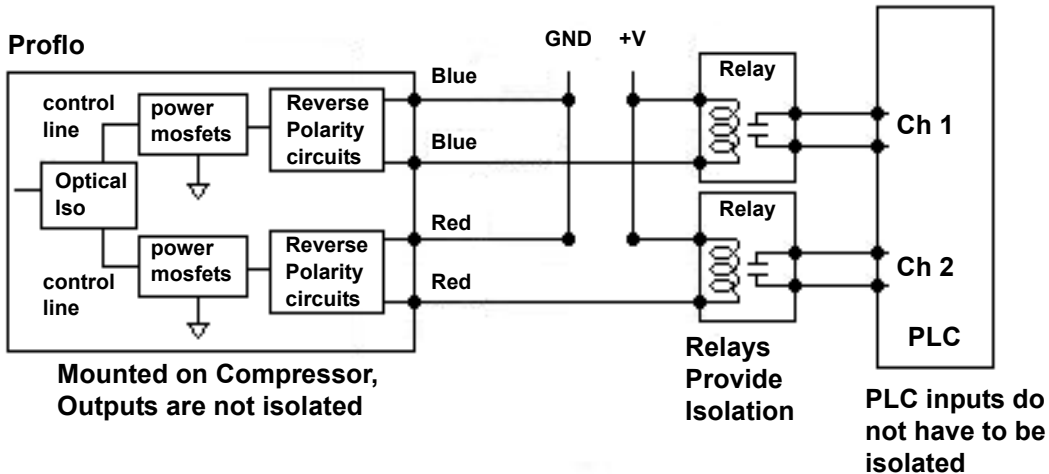

FIGURE 4-18: EXAMPLE DIAGRAM TO READ BOTH PULSE & ALARM CONTACTS - USING RELAYS
5. If Isolated PLC inputs are not an option, yet another method of achieving isolation between the Proflo outputs and the PLC is to wire the Proflo to the "coil" side of a relay. Then use the contact side of the relay to the control system. There are relays on the market that are very cost effective. Ariel recommends using a solid state type relay for long life. See Figure 4-18: